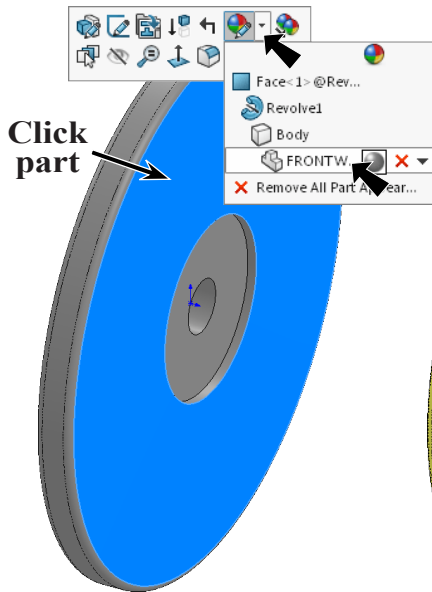

Fig. 19
Step 1. Click the Wheel to select the part, click **Appearances Call-out** on the context toolbar and click **FRONT W...**, **Fig. 19**.